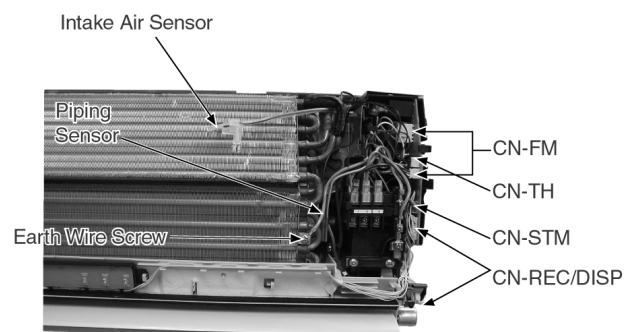

Fig. 4
- Releasing CN-REC/DISP connectors. (Fig. 4)
- Releasing CN-FM connectors. (Fig. 4)
- Releasing CN-STM connector. (Fig. 4)
- Removing the Earth Wire screw. (Fig. 4)
- Releasing the Intake Air Sensor. (Fig. 4)
- Releasing the Piping Sensor. (Fig. 4)